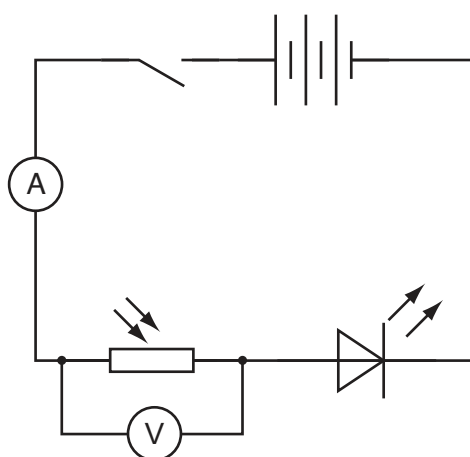

Fig. 2.1
4. The supervisor should set up the circuit shown in Fig. 2.1. Short connecting leads should be used so that there is no overlapping and the layout of the circuit is clearly visible to the candidate.
The supervisor must ensure that the circuit is in the configuration shown in Fig. 2.1 with the switch open. The LDR should be on card X and the LED should be on card Y.